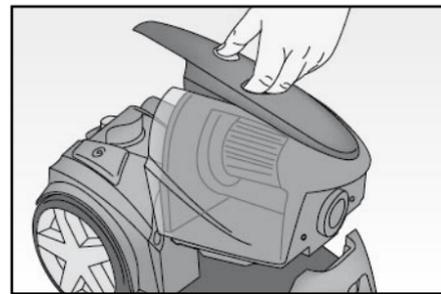

Fig. 6
- Press the release button (4) and at the same time, remove the dust container (7) using the relevant handle (5) (Fig. 6).